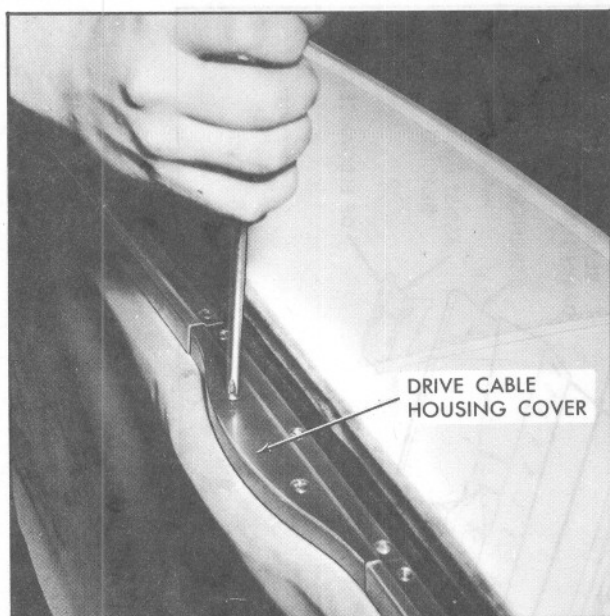

Fig. 15-28 Removing Drive Cable Housing Cover
8. Remove drive cable housing cover, Fig. 15-28.
1. Remove drive cable housing cover, Fig. 15-28.